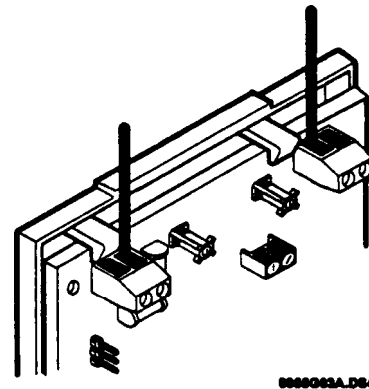

Figure 5. Connecting Expander Antennas
3. Tighten the terminal screws (see Figure 5).